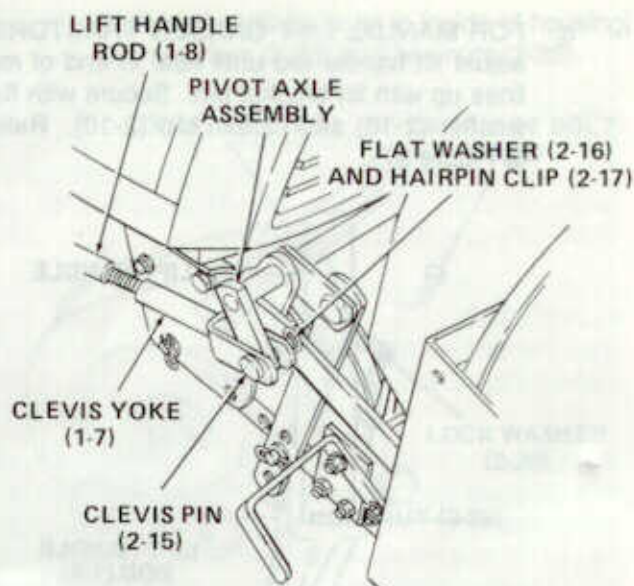

Figure 35
10. Attach clevis yoke (1-7) to threaded end of lift handle rod (1-8). Refer to Figure 35.
- a. Install clevis yoke end of lift handle rod to pivot axle assembly, and secure with clevis pin (2-15), flat washer (2-16) and hairpin clip (2-17). Refer to Figure 35.